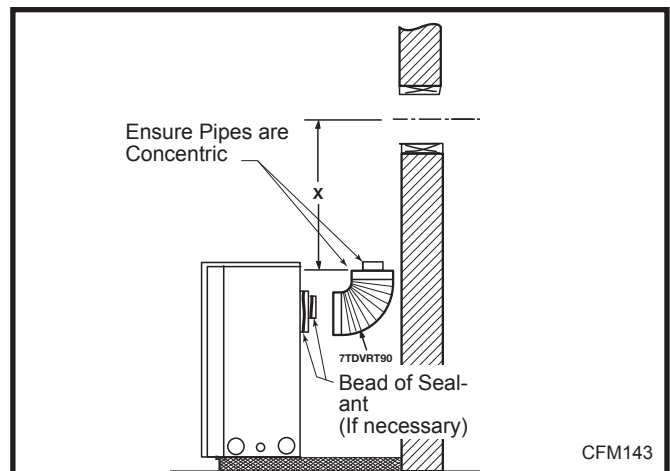

Fig. 27 Apply sealant to inner and outer pipe.
Apply a bead of high temperature sealant to the inner and outer flue collars of the fireplace and using appropriate venting component(s) attach to fireplace with three (3) screws. (Fig. 27) Follow with the installation of the inner and outer elbow. Again secure joints with three (3) sheet metal screws. Wipe off any excess high temperature sealant.